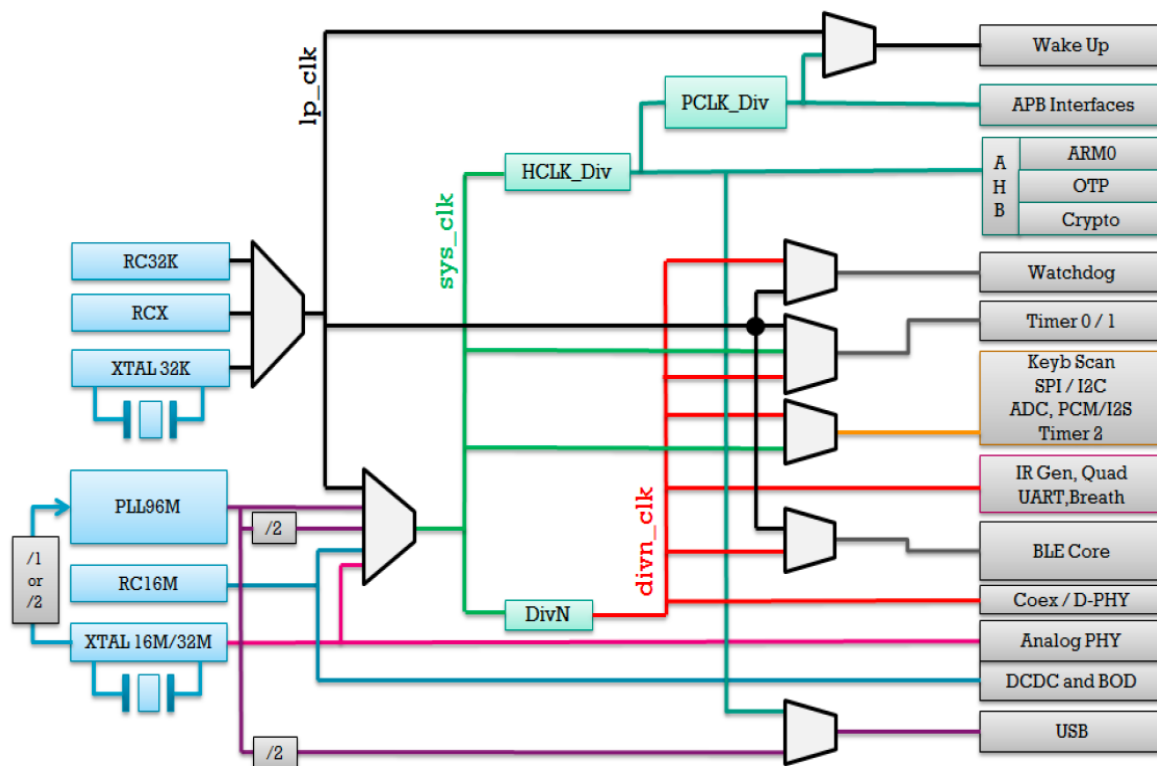

Figure 13: The Clock Tree Diagram for the DA1468x Family of Devices
- Controls the system level clocks. The divider of each hardware resource is responsible to control the clock settings for the resource. In this context, the CPM controls the system clock which is illustrated with green line (`sys_clk`) in Figure 13, the AHB and APB clocks which are the blue lines at the top of the figure, and the low power clock which is the black line (`lp_clk`).